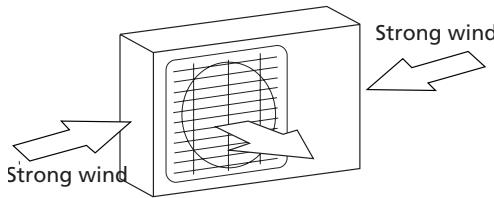

Fig. 6.1
- ☒ If the location is exposed to strong winds (for example: near a seaside), the unit must be placed against the wall to shelter it from the wind. If necessary, use an awning. (See Fig. 6.1 & 6.2)